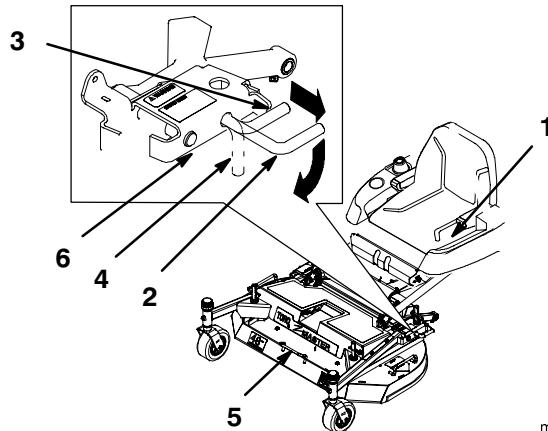

Figure 19
3. Pull out on latch pin to release and rotate into notch to hold in the unlocked position (Fig. 19). Repeat on the other side. Lower rear of mower onto rollers.
1. Pull out latch pins and rotate into notch to hold in the unlocked position (Fig. 19).
3. Rotate latch pins into released position and lift on side of carrier frame near latch pin until latch pin engages (Fig. 19). Repeat on the other side.